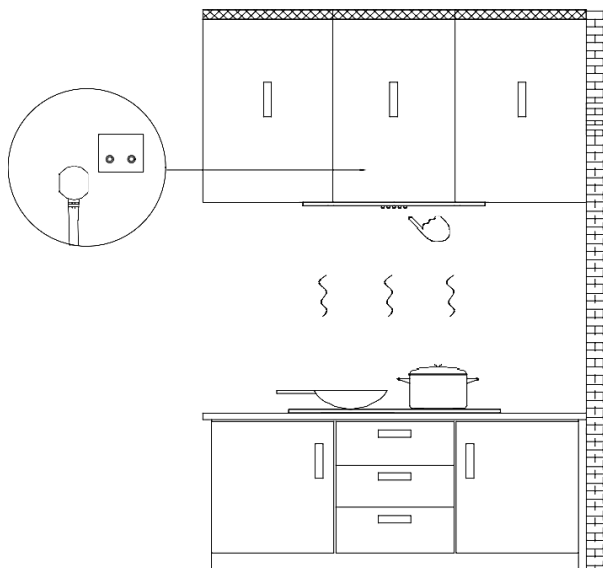

Fig. 10
8. Connect the power and turn the LED lights on/off in order to test whether the functions are working properly. (see Fig. 10)